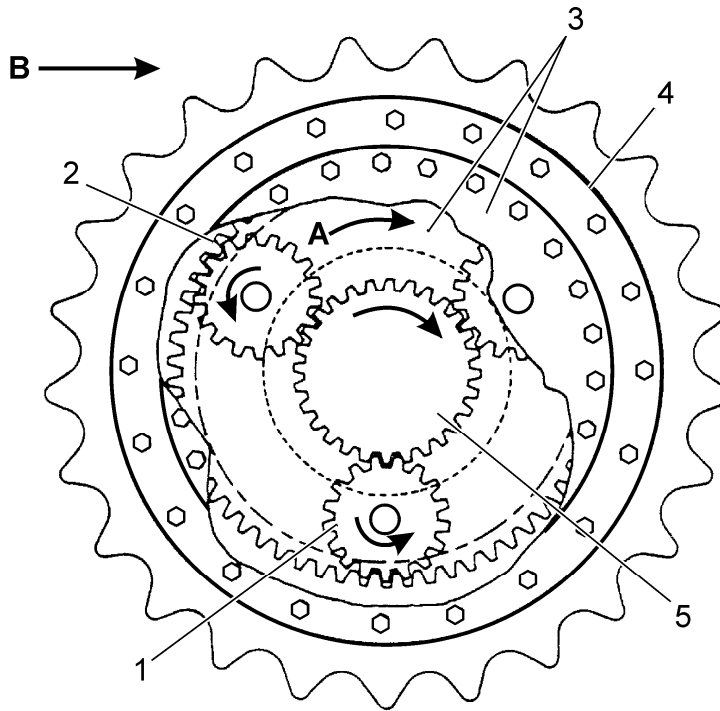

Fig. 7F.1. Planetary Drive
2. DESCRIPTION (Refer to Fig. 7F.4)
As the final bull gear and sun gear (5, Fig. 7F.1) revolves, it causes the planet gears (1) to rotate on their shafts. The planet gears (1), being meshed with the stationary ring gear (2), cause the planetary carrier housing (3), sprocket hub and sprocket (4) to rotate in direction "A" driving the machine in direction "B" as shown on Fig. 7F.1.